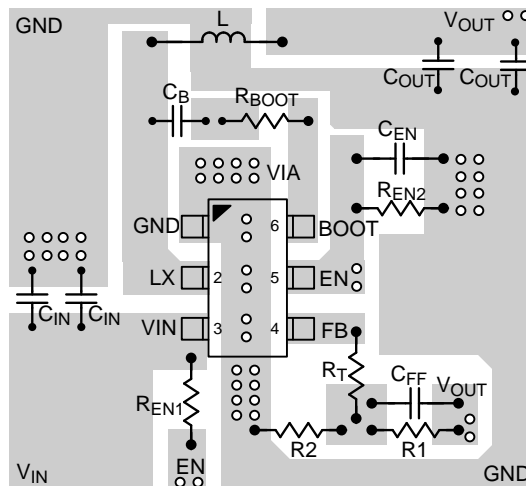

Figure 9. PCB Layout Guide for TSOT-23-6 package
- ▶ An example of the RT6214A/B PCB layout guide is shown in Figure 9 and Figure 10 for references.